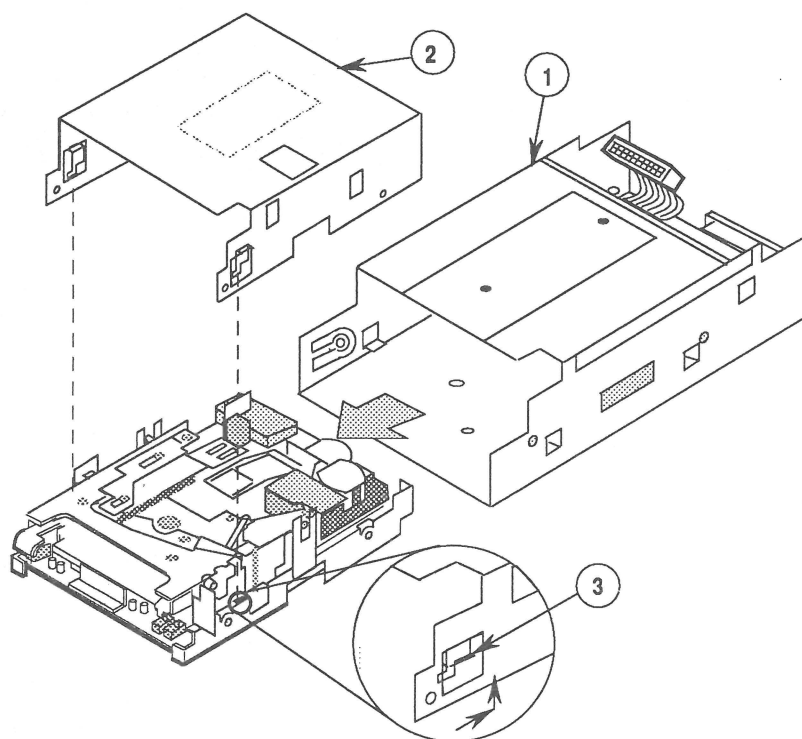
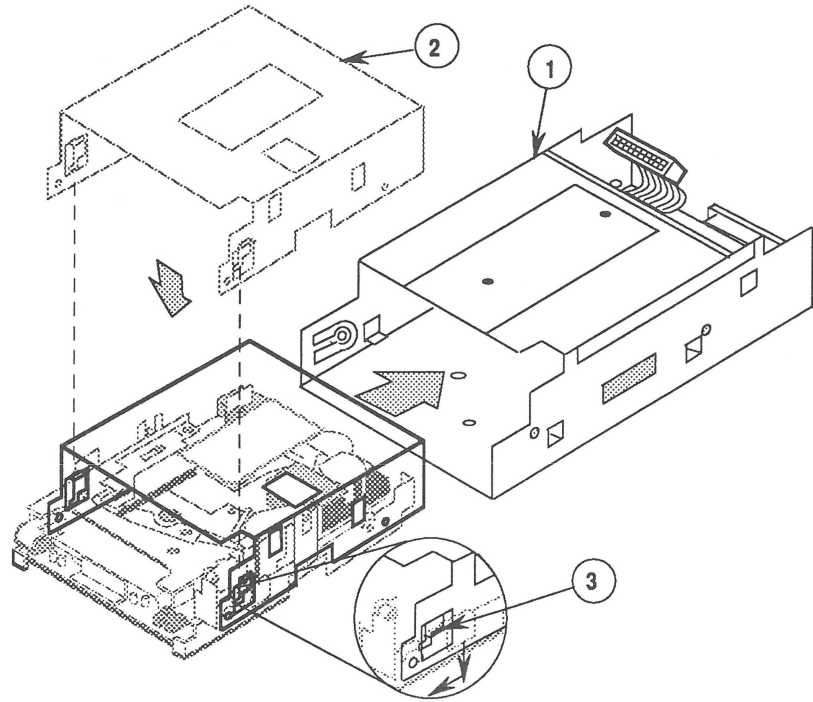

FIGURE 16
FIGURE 17
5. Slide the 1.4 MB drive mechanism out of the outer metal shield (Figure 16, #1) (away from the external cable end).
6. Remove the inner metal shield from the drive mechanism. To do this, first place the drive mechanism on a soft surface. Then push the inner metal shield (Figure 16, #2) in the direction of the arrow (see detail) until the tabs (Figure 16, #3) on each side of the shield clear the holes in the drive mechanism. Lift the drive mechanism off the shield.
1. If necessary, remove the shipping fixture from the new 1.4 MB drive mechanism. Then place the inner metal shield over the 1.4 MB drive mechanism as shown in Figure 16. Insert the two brackets (Figure 17, #1) on the shield into the holes in the drive mechanism, and push the shield in the direction of the arrow as shown in the detail below.
2. Slide the drive mechanism into the outer metal shield (Figure 17, #2). Be sure to insert the connector (CN102) end of the drive mechanism first.